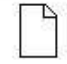
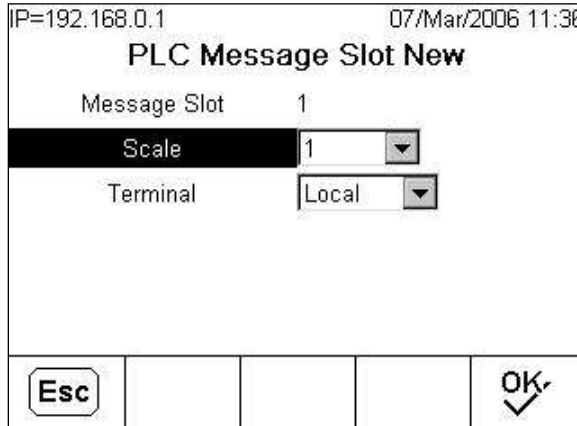

Figure 1-9: PLC Message Slots View Screen
Figure 1-11: New Message Slot Screen
7. Depending on which format is selected, press the VIEW TABLE softkey  to set up the number of **Message Slots** (1, 2, 3, or 4. In Block Transfer mode, maximum number is 3.) [default is 0], or to configure the Template for communications between the IND780 and the PLC. Figure 1-9 shows the Message Slots View, which is viewed whenever the Format is **not** Template.
Figure 1-11 shows the screen that opens when NEW is selected from the Message Slots View screen (Figure 1-9).